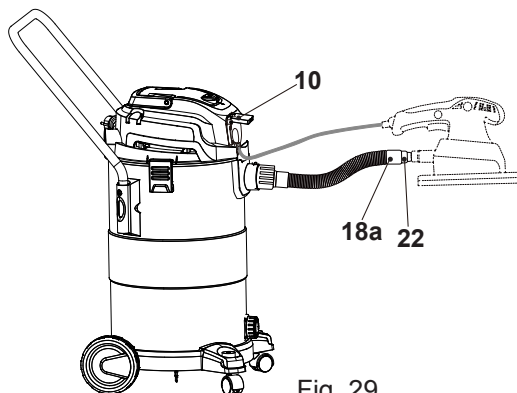
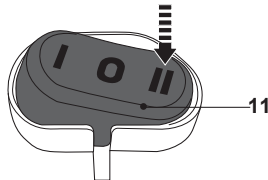

Fig. 29
Fig. 30
This vacuum cleaner is equipped with a synchro socket (10) which allows a power tool (circular saw, drill, sanding machine, etc...) to be plugged directly into the vacuum synchro socket, and uses an automatic tool triggering feature for a clean work environment. For synchro socket operation, connect the power tool hose adaptor (22) onto the hose handle (18a) with other power tool (Fig. 29).
**Check nameplate of the tool for the wattage rating. To reduce the risk of injury, additional power tool must be turned (O) OFF before placing on/off switch (11) in the (II) AUTO position. (NEVER LEAVE THE UNIT RUNNING OR PLUGGED IN UNATTENDED).**
The power switch is used to select the automatic tool triggering feature built into the vacuum. With the (I) ON position selected, the vacuum will simply run continuously. When the (II) AUTO position is selected (Fig. 30), the vacuum will automatically turn on and off when the power tool is turned on and off.